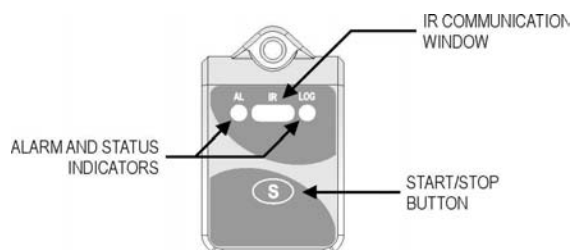

Figure 01 – Logger Front
- **Immediately:** start as soon as set up is ready and sent (OK) to the logger.
- **Via Start/Stop Button:** starts and interrupts readings by pressing the Start/Stop button, in the frontal part of the logger, for two seconds. See Figure 01.